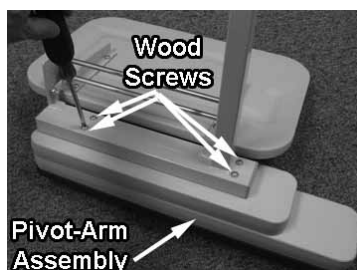

FIG. 4
2. Use a Phillips or #2 square bit screwdriver to remove the (4) **wood screws** on underside of arm assembly that hold the **Pivot Arm assembly** onto the steel **Arm Support** (**FIG. 4**).